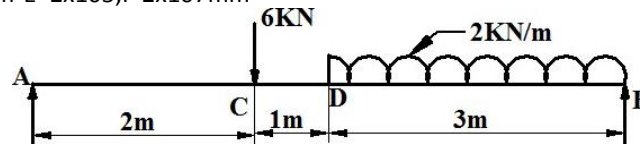

Figure 42
11. A beam AB of span 6m is simply supported at the ends and is loaded as shown in **Figure 42**.